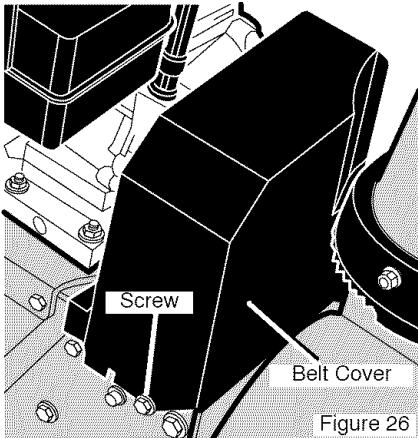

Figure 26
2. Remove **screw** from **belt cover**. Remove **belt cover** (see Figure 26).
4. Remove **screw** from **belt cover**. Remove the **belt cover** (see Figure 26).
16. Install the **belt cover**. Tighten **screw** (See Figure 26).
15. Install the **belt cover**. Tighten **screw** (see Figure 26).